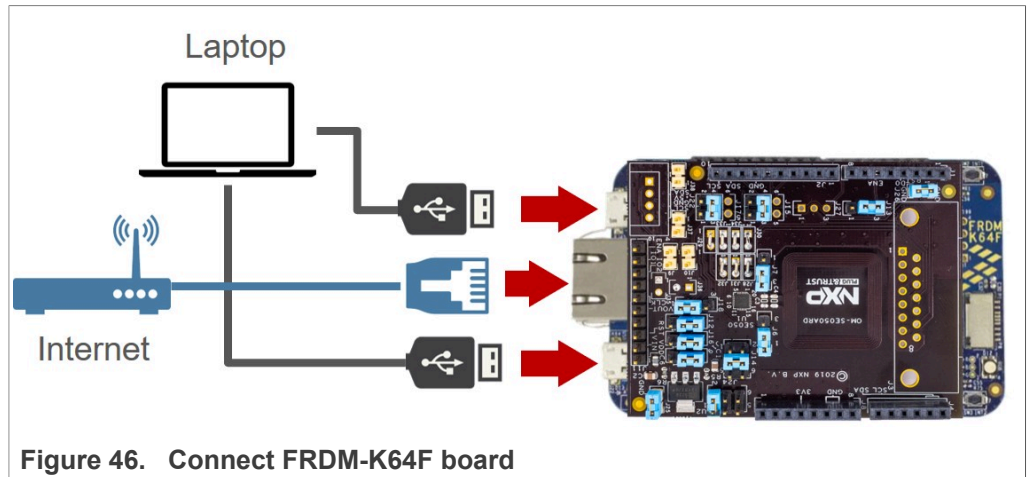

Figure 46. Connect FRDM-K64F board
1. Connect FRDM-K64F OpenSDA port and K64F port to your laptop. and connect the board to Internet using an Ethernet cable as shown in Figure 46: